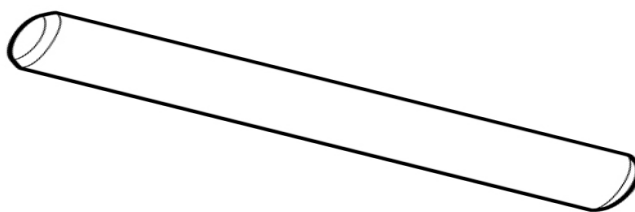

Figure 8. Firing Pin Retaining Pin.
c. Broken, defective, or missing firing pin retaining pin. Refer to Figure 8.	Replace the firing pin retaining pin. Refer to WP 0012 00.